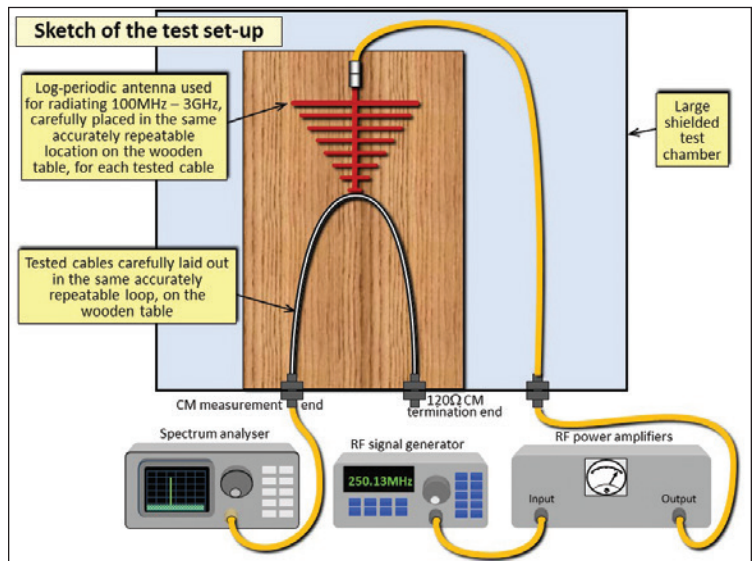

Figure 7: Sketch of the test set-up
- Cable 4: Same as Cable 3, but with the internal TP cable's braid now 360° soldered to the overbraid at the backshell at the CM measured end, but still pigtailed at the 120W end (see Figure 7).
- Cable 10: Same as Cable 6, but with the internal TP cable's braid 360° soldered to both overbraids at the backshell at the CM measured end while still pigtailed at the 120W end (see Figure 7).
There are many ways of testing the SE of cable assemblies (i.e., cables plus their connectors), and each should be expected to give different results even with identical cable assemblies. So, I chose a test method that best represented the situation I was most interested in and that was also the easiest and quickest to do with the facilities and resources I had available at the time (see Figures 7, 8, and 9).
1. Frequency-related variations in the RF power output from each RF amplifier (see Figure 7);